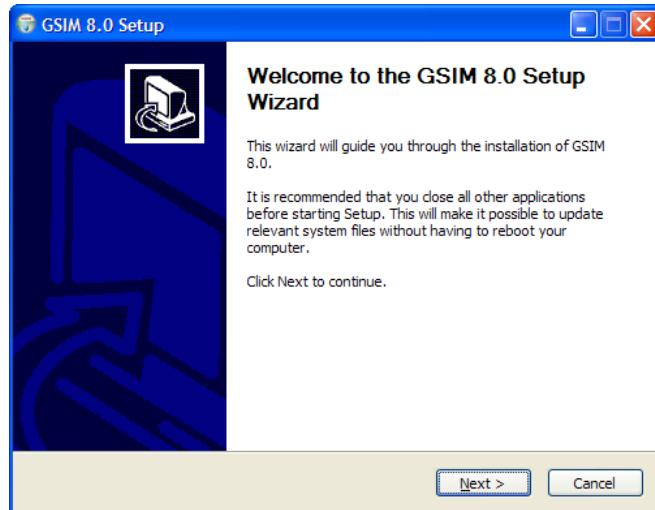

Figure 6.4 Installer opening screen
- j) In the opening screen of the installer wizard (figure 6.4), click **Next**.